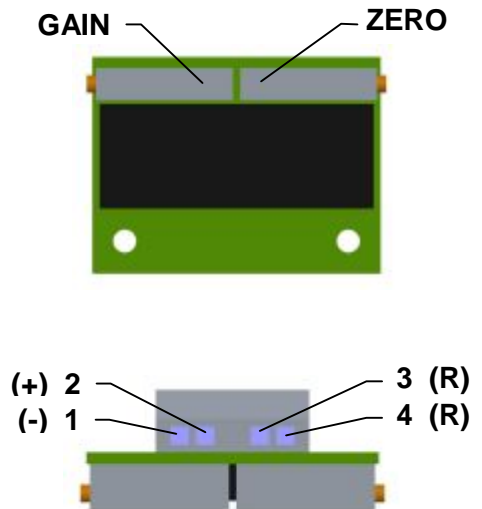

Fig.10
4.6.1 EPV – the 2-wire version (Fig. 10)
- Adjust the resistive transmitter according to the previous chapter. The resistance is to be metered on the terminals R-R (Fig. 10). The used transmitter resistance is 100 Ω.
- Turn the adjusting trimmer ZERO (Fig. 10) to adjust the output current signal rate measured on the terminals 81-82 to 4 mA.
- Turn the adjusting trimmer GAIN (Fig. 10) to adjust the output current signal rate measured on the terminals 81-82 to 20 mA.